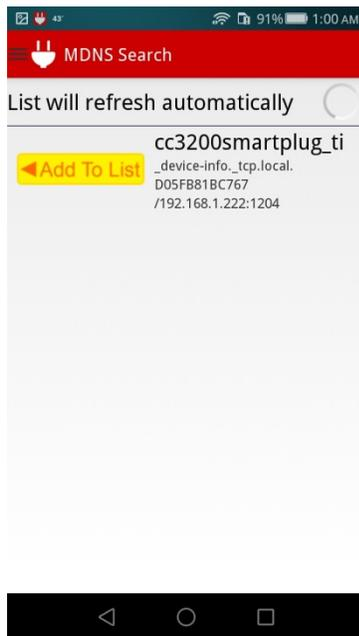

Figure 6. mDNS With Device Found
- mDNS Search: Search for local devices using mDNS (see Figure 6).